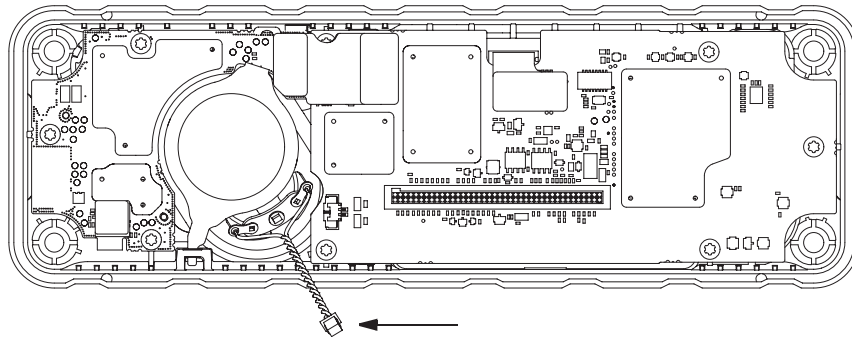

Figure 2-59. Disconnecting the Speaker Connector
- Carefully disconnect the speaker connector from the circuit board as shown in Figure 2-59.